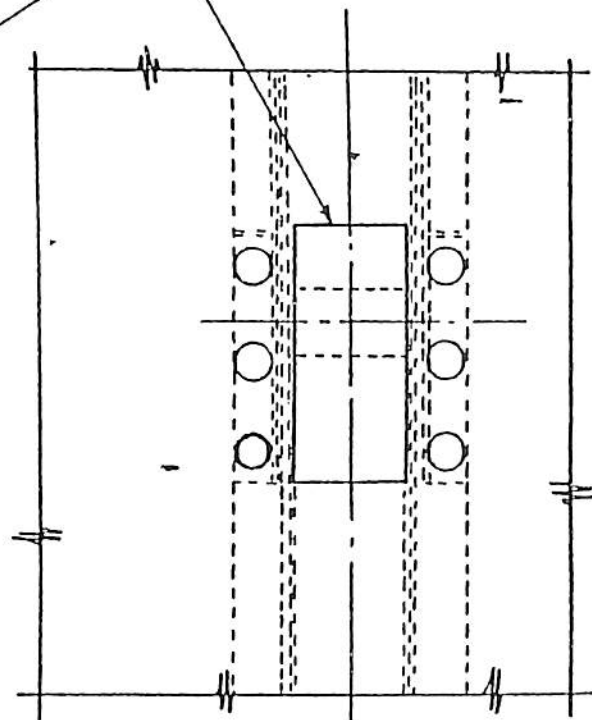

FIGURE 1 TIE BAR INSTALLATION
4. Refer to Figure 1 and cut three 2.50 X .90 inch inspection holes in cap strip C3FS13-4 located over top of tie-bar. Cut one hole each side of cap strip and one at centre of aircraft. Exercise care to prevent damage to tie-bar when cutting holes.